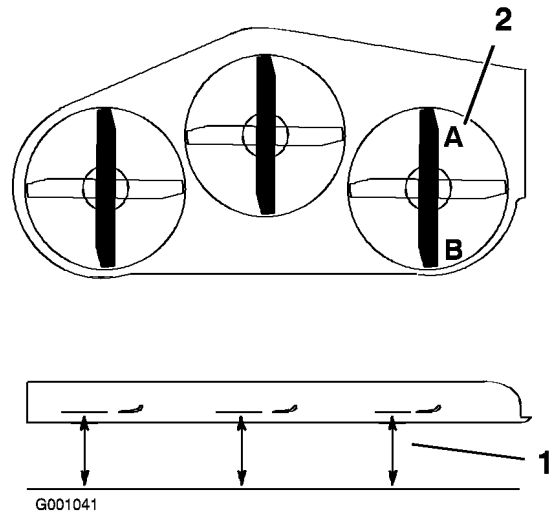

Figure 79
1. Position the right blade front-to-rear (Figure 79).
2. Measure the right blade at the **A** location, from a level surface to the cutting edge of the blade tip (Figure 79).
4. Measure the right blade at the **B** location, from a level surface to the cutting edge of the blade tip (Figure 79).
6. The mower blade should be a 1/4 to 3/8 inch (6 to 10 mm) lower at position **A** than at position **B** (Figure 79). If it is not correct, proceed to the following steps.